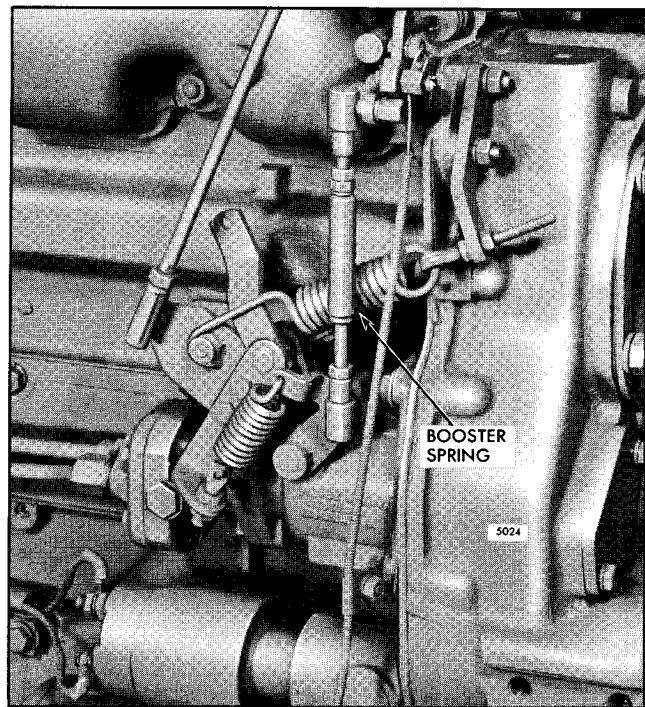

Fig. 9 - Adjusting Booster Spring
1. Reduce the tension on the booster spring, if not previously performed, to the minimum, by backing off the outer nut, see Fig. 9.